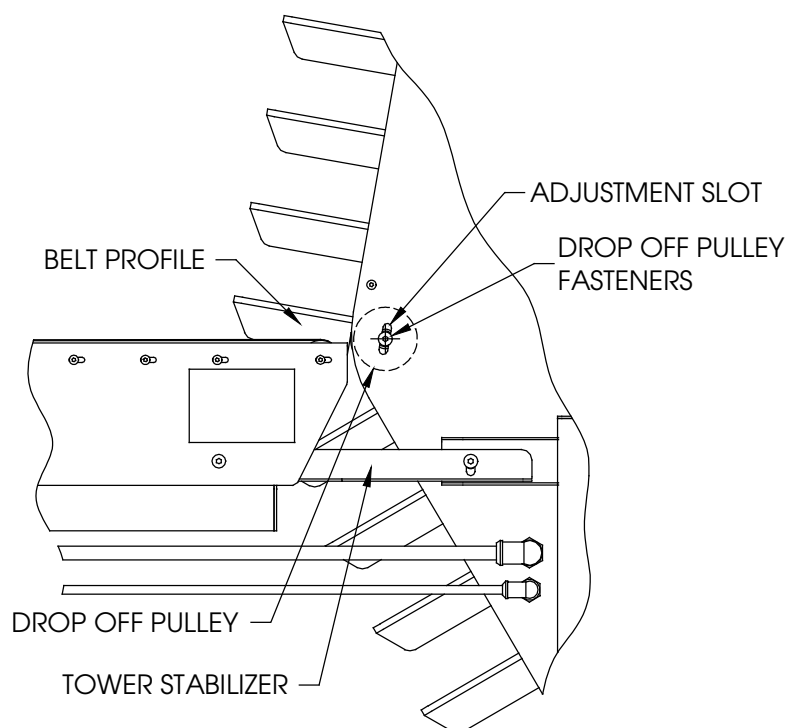

Figure 17. Drop Off Pulley Adjustment
1. Loosen but do not remove the (2) two Drop Off Pulley Fasteners (shown in Figure 17) to allow the Drop Off Pulley to move within the Adjustment Slot.